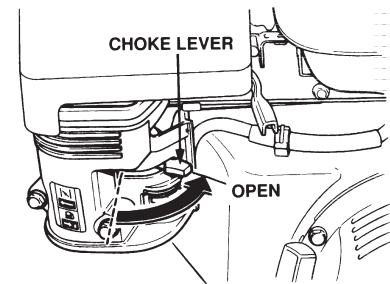

Figure 23. Engine Choke Lever (Open)
3. Place the choke lever (Figure 23) in the **OPEN** position if starting a warm engine or the temperature is warm.